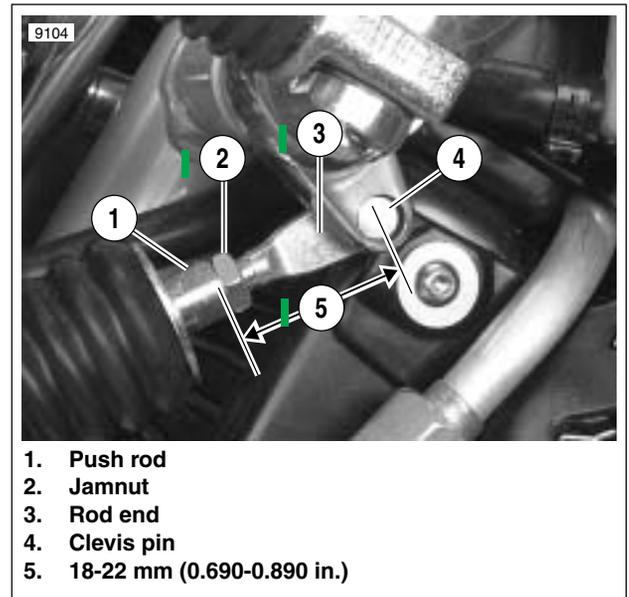

Figure 1-27. Rear Brake Pedal
1. See Figure 1-27. With a wrench holding the push rod (1), loosen jamnut (2).
2. Turn push rod (1) to set threaded rod end (3) length (5) to 18-22 mm (0.690-0.890 in.).